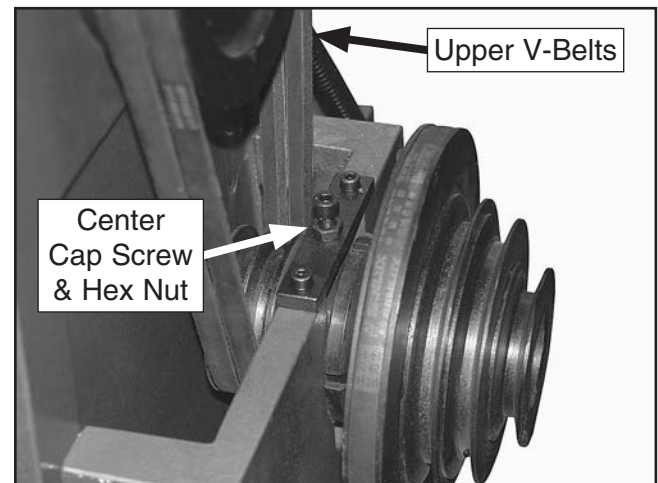

Figure 75. Upper horizontal V-belt tensioning cap screw.
- Loosen hex nut on center cap screw shown in **Figure 75**, then rotate cap screw clockwise to increase tension in upper V-belts.